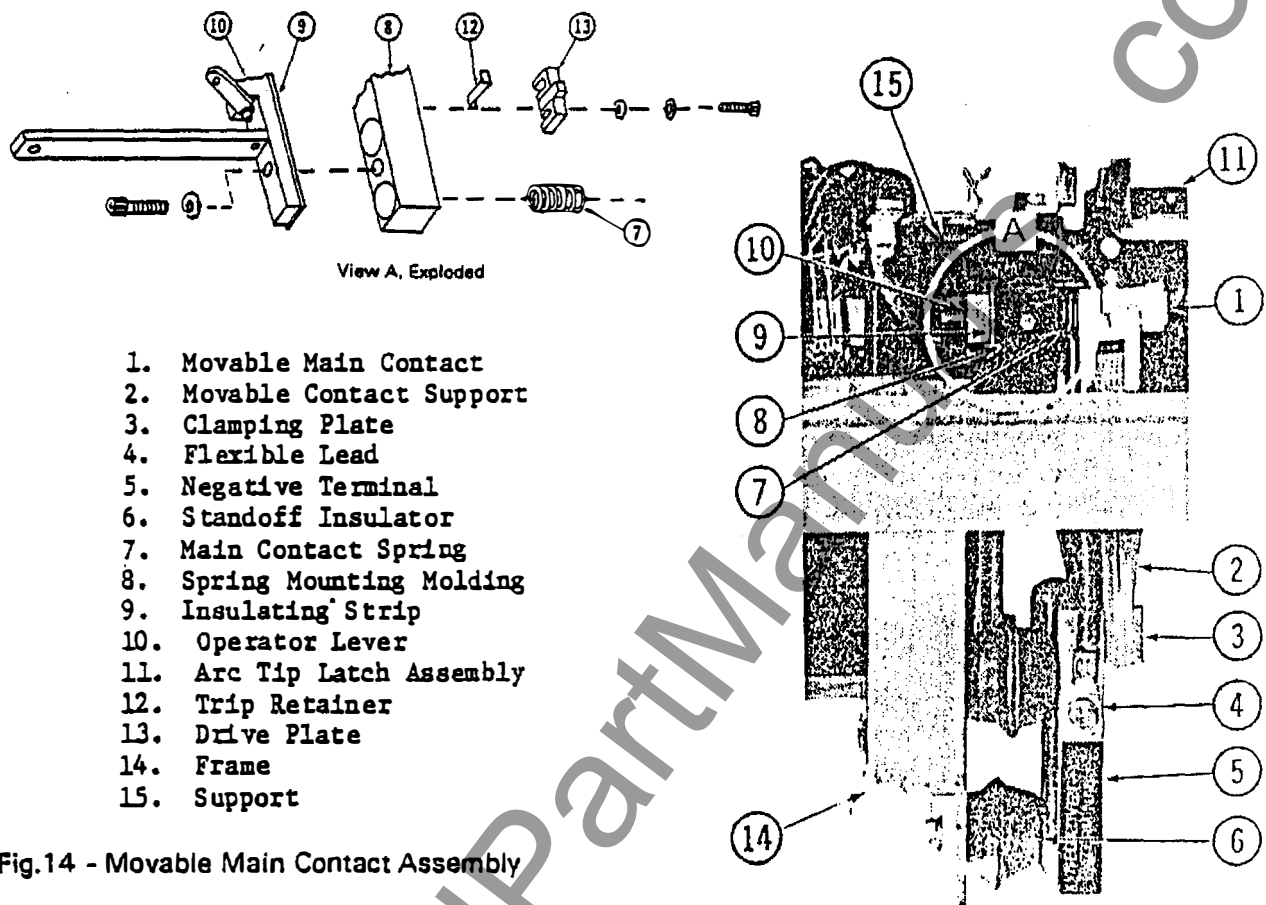

Fig.14 - Movable Main Contact Assembly
If movable contact support (2, Fig.14), main contact springs (7), or spring mounting molding (8) require replacement, proceed as follows:
1. Remove the end of the flexible lead (4 Fig. 14) that attach to negative terminal (5). Remove support screws and remove support (15) along with flexible lead.
2. Remove screws that secure the spring mounting molding (8 Fig 14) and insulating strip (9) to the operator lever (10).
3. Loosen two screws that secure drive plate (13 Fig. 14 view A) to the spring mounting molding (8). Push drive plate (13) as far away from arc tip latch assembly (11) as possible and then lightly retighten screws.
5. Remove three screws that attach stardoff insultaors (6, Fig. 14) to frame (14).
6. Remove movable main contacts (1 Fig. 14), movable contact supports (2), clamping plates (3), negative terminal (5), and standoff insulators (6) as an assembly. Refer to Fig. 10 Item 93.
Replace movable contact support (2, Fig. 14), main contact spring (7), or spring mounting molding (8) with new parts as required. Reassemble movable main contact assembly as follows:
3. Loosely attach all movable contact supports and clamping plates (3, 2, Fig. 14), which were removed to negative terminal (5). Do not tighten at this time.
5. Place movable contact assembly (1, 2, 3, 5 and 6 Fig. 14) in proper position and attach standoff insulators (6) to frame (14) with three screws and lockwashers. Tighten securely.
7. Place insulating strip (9, Fig. 14) between spring mounting molding (8) and operator lever (10). Attach spring mounting molding (8) and operator lever (10) with two screws and lockwashers. Tighten securely.
8. Install support (15, Fig. 14) to frame assy. Attach ends of flexible lead (4) to negative terminal (5) and support (15) with screws and lockwashers.
9. Tighten screws that fasten movable contact supports (2 Fig. 14) to negative terminal (5) securely. Check for freedom of movement of movable contact support stud in spring mounting molding (8). If rubbing exists, loosen screws securing movable contact supports (2) to negative terminal (5) and move movable contact support (2) to relieve friction. Retighten screws and recheck for freedom of movement.
1. Loosen two screws that secure drive plate (4, Fig. 15) to the spring mounting molding (6). Push drive plate (4) as far away from arc tip latch assembly (11, Fig. 14) as possible and then lightly retighten screws.